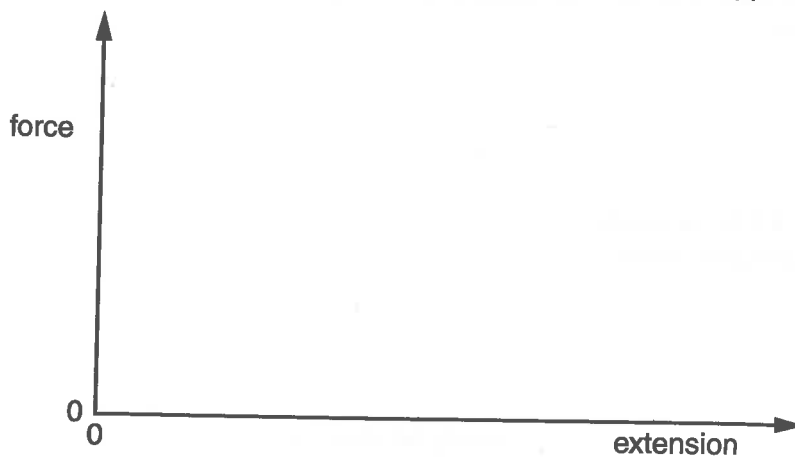

Fig. 3.1
- (ii) The two wires are each extended by a force. Both wires obey Hooke's law. On Fig. 3.1, sketch a graph for each wire to show the variation with extension of the force. Label the line for steel with the letter **S** and the line for copper with the letter **C**.